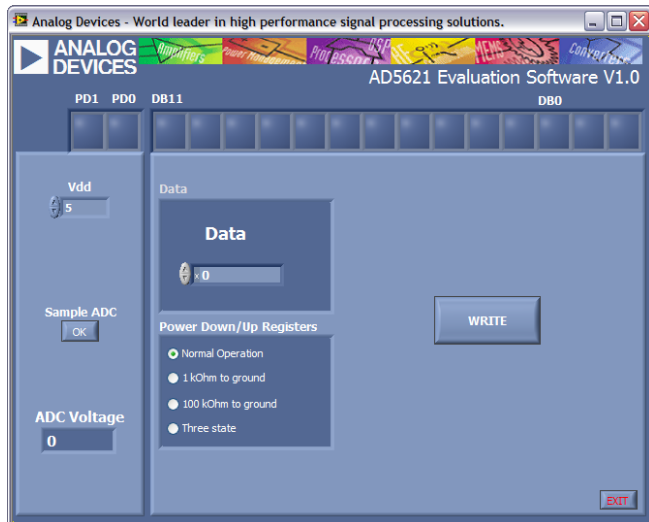

Figure 2. Device Selection
2. Choose the part to be tested as shown in Figure 2.
3. Select how the device should operate. Choose **Normal** to operate the device in normal mode. For power-down mode, choose one of the three available options (**Tri-State**, **100 kOhm to GND**, **1 kOhm to GND** or **Three State**) and click **Write** as shown in Figure 2.